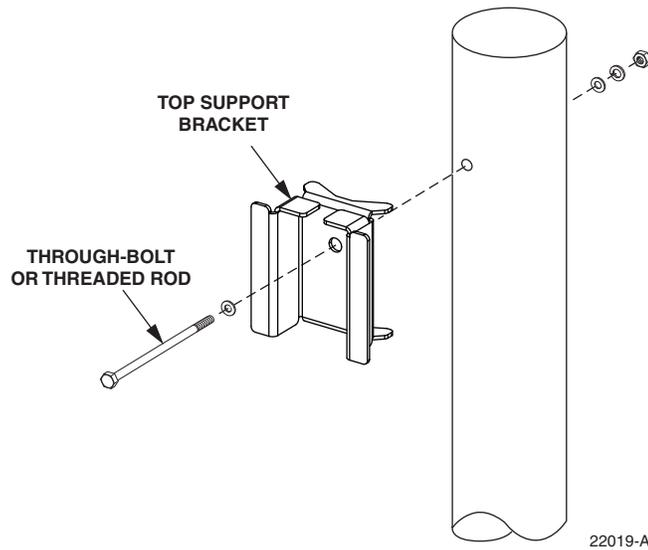

Figure 4. Securing The Cabinet Top Bracket To The Utility Pole
1. Locate where the cabinet will be mounted on the utility pole and place the top bracket in position for mounting as shown in Figure 4.